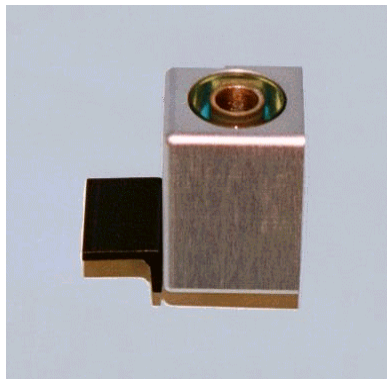

Figure 8.10- Rib support shelf mounted
8. Attach the Rib Support Bracket (T1SPM113) on the lower set of mounting holes on the right shoulder block using two #10-32 x 3/8" FHSCS {1/8}, as shown in **Figure 8.10**.